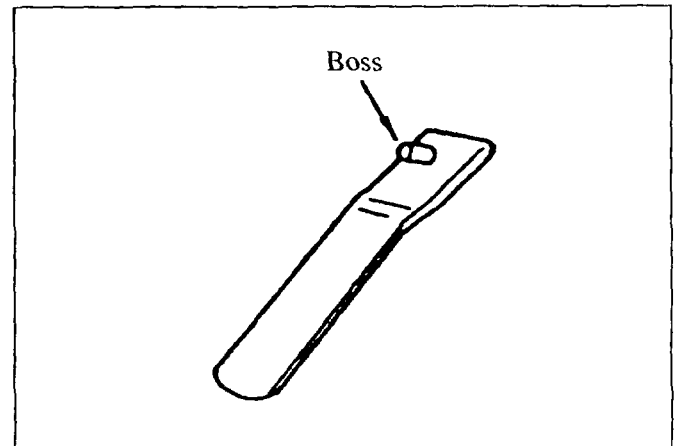

Figure 13: Protector
1. Cut the boss off of the protector. **Figure 13.**